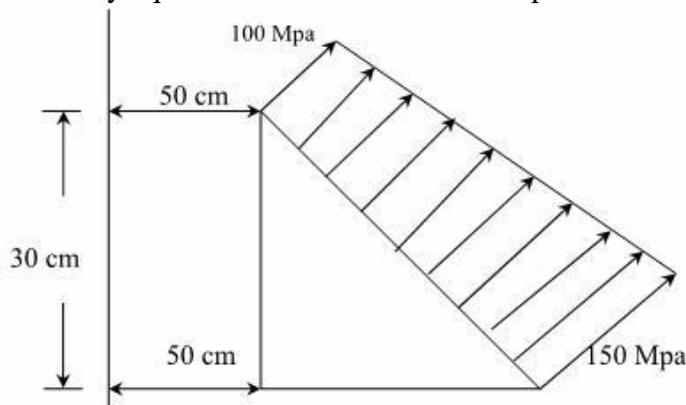

Fig. 7
- b) An axisymmetric triangular element is subjected to the loading as shown in fig.7 the load is distributed throughout the circumference and normal to the boundary. Derive all the necessary equations and derive the nodal point loads.